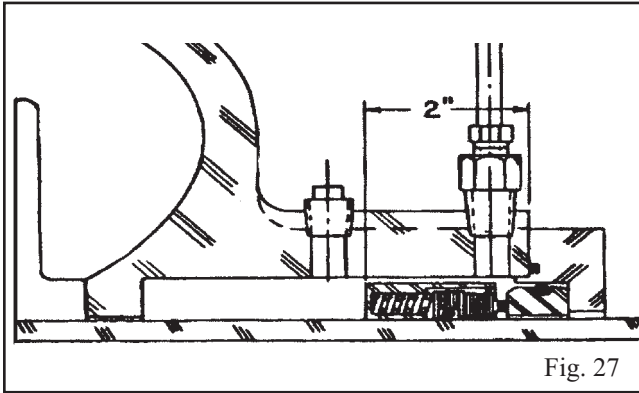

Fig. 27
21. Bolt inboard bearing housing in place. If seal is a John Crane Type 8, set seal to dimensional shown in Fig. 27 and tighten set screws.